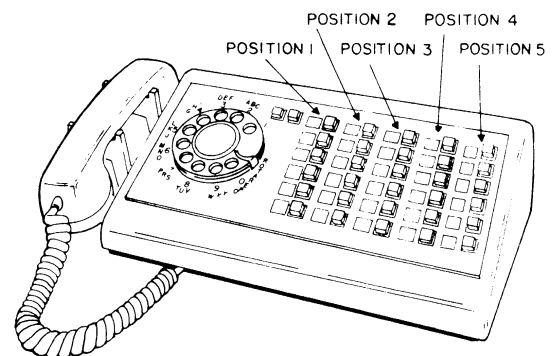
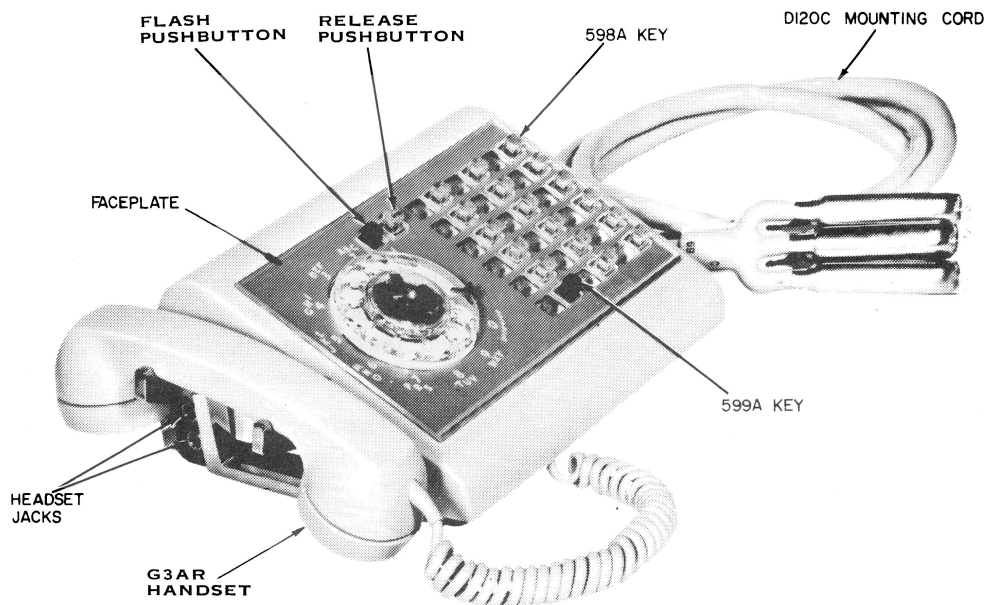

Figure 1. WECO Type 608CW Telephone Set.
Figure 2. WECO Type 618BW Telephone Set.
1.01 This section presents description, operation, modification, and installation information for the WECO Type 608CW and 618BW CALL DIRECTOR® Telephone Sets (Figures 1 and 2). This set can be used with the GTE Automatic Electric Type 10A, 10A1, 10A2, and 16A key telephone systems or comparable systems of other manufacturers. The telephone set is designed to originate, answer, signal, and hold calls on central office lines, PABX lines, tie lines, and intercommunication circuits associated with these key telephone systems. The telephone sets are equipped with a relay (P-20E559) that provides facilities for switching from two- to four-wire operation, and headset jacks.
2.01 The WECO Type 608CW telephone set (Figure 1) measures 15-1/4 inches long, 8-1/4 inches deep, and 4-1/4 inches high. The WECO Type 618BW (Figure 2) telephone set measures 12-1/2 inches long, 8 inches deep, and 4-1/4